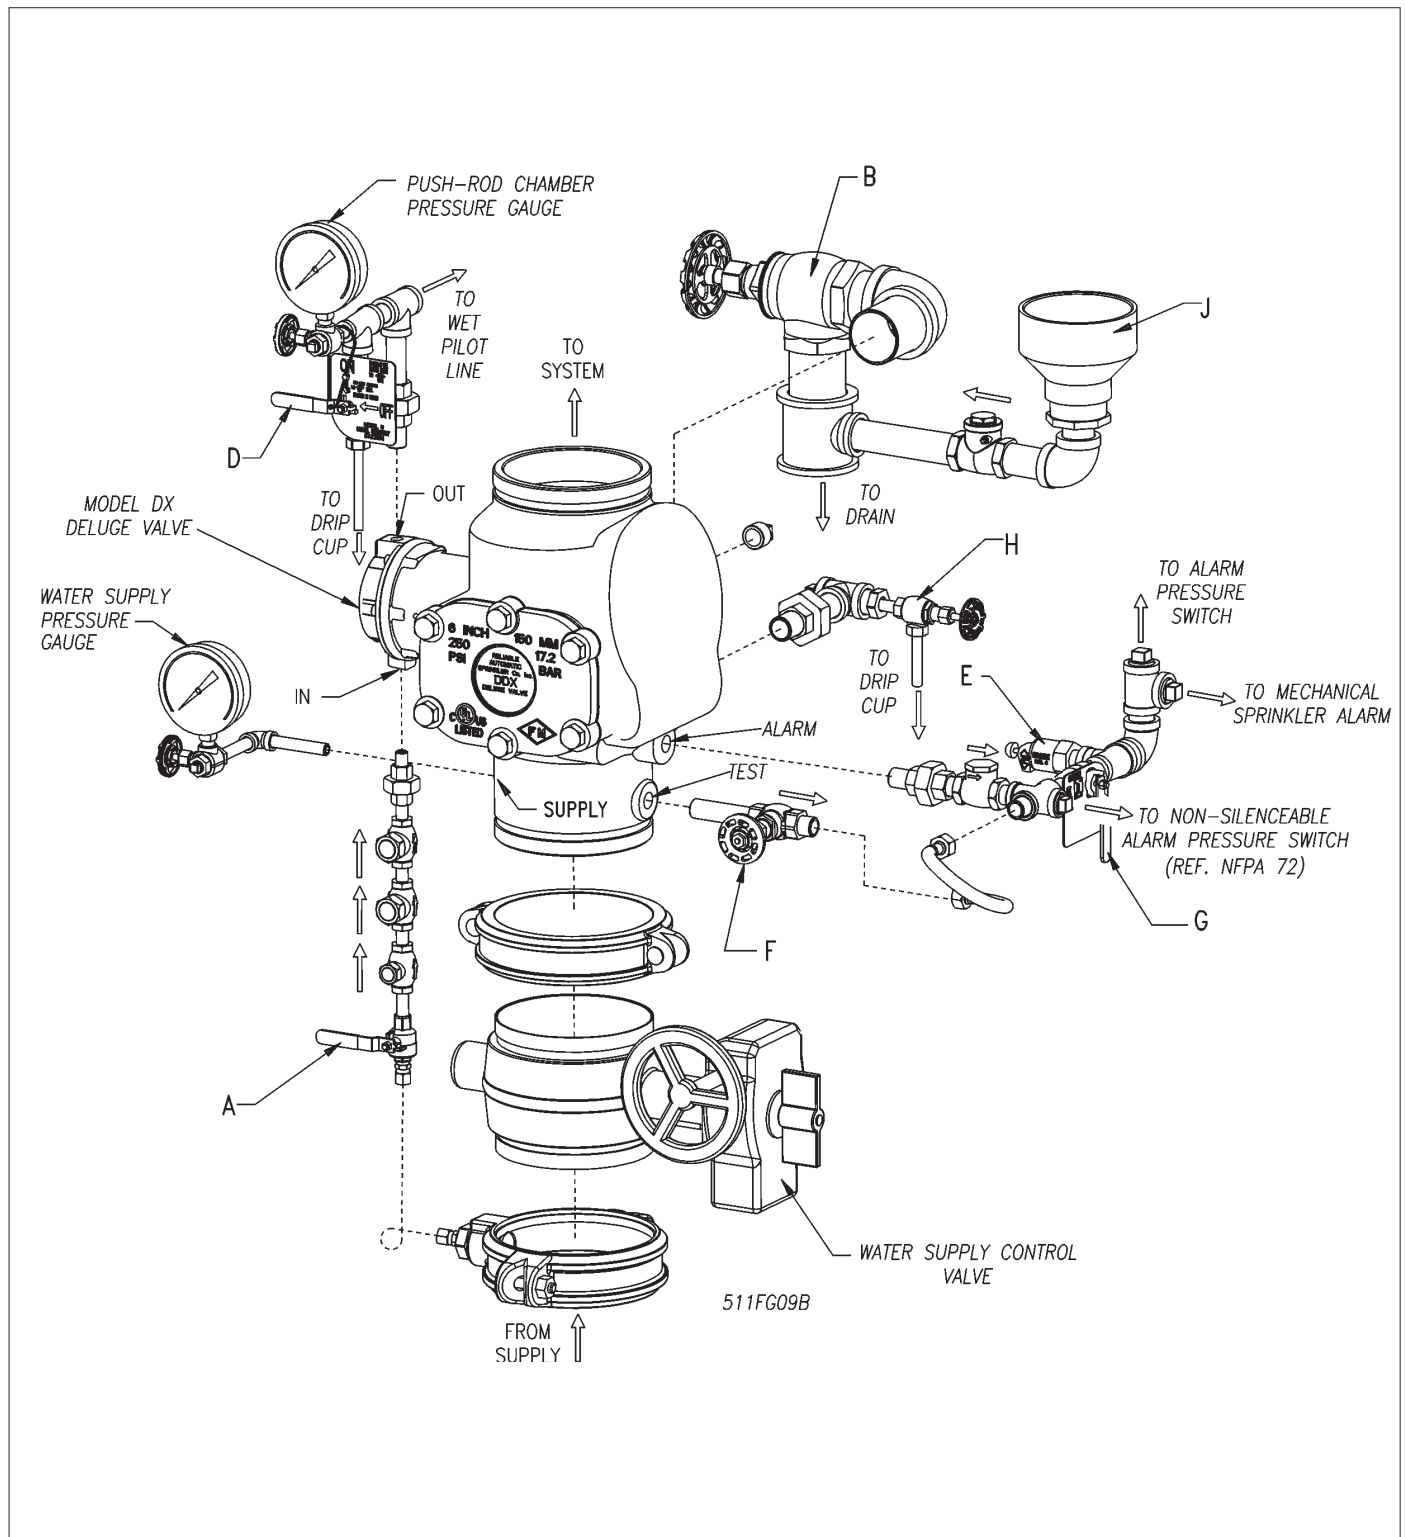

Fig. 9
1. Close the valve controlling water supply to the Deluge Valve and close valve A (Fig. 9).
2. Open main drain valve B (Fig. 9) and drain system.
3. Open all drain valves and vents at low points throughout the system, closing them when flow of water has stopped. Open valve D (Fig. 9).
4. With valve G (Fig. 9) open, push in the plunger of ball drip valve E (Fig. 9), forcing the ball from its seat to verify that there is atmospheric pressure inside the main valve chamber.
7. Open valve A (Fig. 9) and allow water to fill the push rod chamber. Close valve D (Fig. 9).
- C. Dry Pilot Trim — open valve D (Fig. 9) allowing water to flow through the pilot line actuator. When all air has been expelled from the release line, and there is a solid flow of water into the drain cup J (Fig. 9), apply compressed air or nitrogen through the pressure maintenance device to close the pilot line actuator. Subsequently, close valve D (Fig. 9) or (#13, Fig. 5) and adjust the air or nitrogen pressure to the appropriate value in Table A as indicated on air pressure gauge (#34, Fig. 5).
9. Check that valves D (Fig. 9) and F (Fig. 9) are closed and that valve G is open (Fig. 9). Open slightly the valve controlling water supply to the Deluge Valve, closing the main drain valve B (Fig. 9) when water flows. Observe if water leaks through ball drip valve E (Fig. 9), into drain cup J (Fig. 9) (Be sure that valve G (Fig. 9) is open). If no leak occurs the water seat is tight. Open slowly but fully the valve controlling water supply to the Deluge Valve. Verify that it is fully opened and properly monitored.
10. Valve A (Fig. 9) must remain open when the Deluge Valve has been reset, to maintain water pressure in the push rod chamber.
11. Verify that the Model B Manual Emergency Station, valve D (Fig. 9) is sealed in the OFF position with the appropriate nylon tie.
2. **Alarm line** — be sure that valve G (Fig. 9) is opened and remains in this position.
3. **Other trimming valves** — check that valve A (Fig. 9) is open, as well as all of the pressure gauge's $\frac{1}{4}$ " 3-way valves. Valves D, F, & H (Fig. 9) should be closed.
4. **Ball drip valve E (Fig. 9)** — Make sure valve G (Fig. 9) is open. Push in on the plunger to be sure ball check is off its seat. If no water appears, the Deluge Valve's water seat is tight. Inspect the bleed hole (see Fig. 8) in the side of the push rod chamber for leakage.
7. **Testing alarms** — Make sure valve G (Fig. 9) is open. Open valve F (Fig. 9) permitting water from the supply to flow to the electric sprinkler alarm switch and to the mechanical sprinkler alarm (water motor). After testing, close this valve securely. Push in on the plunger of ball drip valve E (Fig. 9) until all of the water has drained from the alarm line.
8. **Operation test** — Open the Model B Manual Emergency Station, valve D (Fig. 9).
9. Secure the Model B Manual Emergency Station, valve D (Fig. 9), in the OFF position with nylon tie after Deluge Valve is reset.
1. Close the valve controlling water supply to Deluge Valve and open the main drain valve B (Fig. 9).
2. Verify that valve A (Fig. 9) is open, allowing water to enter the push rod chamber.
- A. Wet Pilot Trim — open Model B Manual Emergency Station, valve D (Fig. 9).
Refer to Fig. 9
2. Leakage out of the ball drip valve E (Fig. 9).
b. Leakage, air or water from the ball drip valve, E (Fig. 9):
A) Shut down the valve controlling the water supply to the Deluge Valve and open the 2" main drain valve B (Fig. 9). Open the water column drain valve H (Fig. 9). Close the push rod chamber supply valve A (Fig. 9) and open the Model B Manual Emergency Station D (Fig. 9).
- a) Shut down the valve controlling water supply to the Deluge Valve. Relieve the inlet pressure by opening the 2" drain valve B (Fig. 9). Close the valve A (Fig. 9) that supplies water to the push rod chamber, and open the Model B Manual Emergency Station, valve D (Fig. 9).